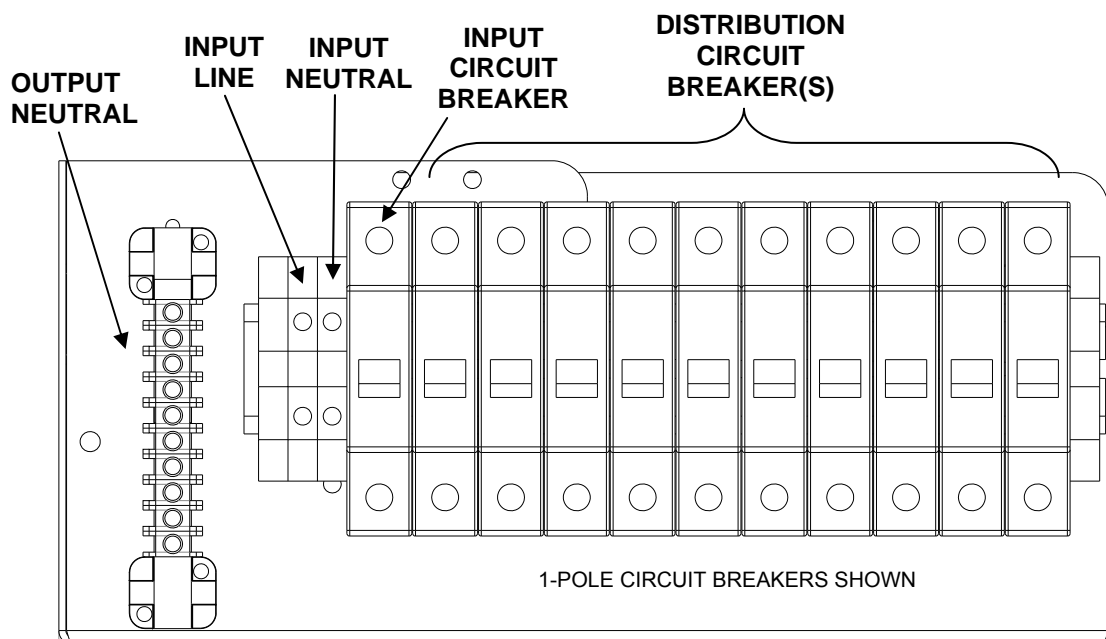

Figure 4.1 AC Input and Output connections
**For 3-wire input:** connect each hot wire to each of the Input Terminal Blocks labeled “**LINE**”, connect ground wire to the ground terminal block labeled “**GROUND**”. If there is a common wire required, connect the wire to the neutral buss bar labeled “**NEUTRAL**”. (See Figure 4.1)
Connect load wires to the system’s area labeled “**OUTPUT**”. Connect hot wire to the Main Output Circuit Breaker labeled “**NORM. ON**” or to the **Optional Distribution Circuit Breakers**, the common wire(s) to the Buss Bar labeled “**NEUTRAL**” and the ground wire(s) to the ground terminal block labeled “**GROUND**”. (See Figure 4.1)